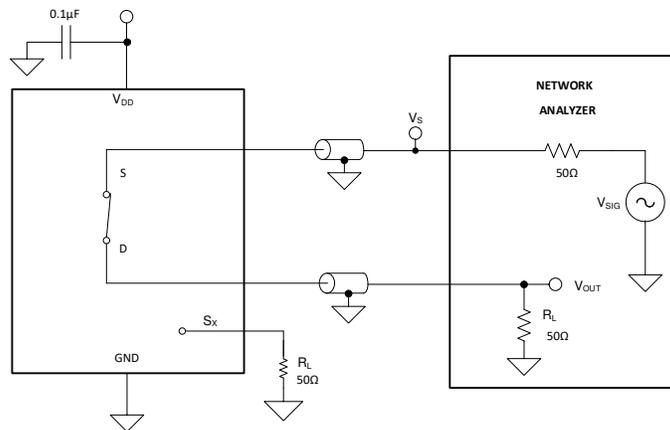

Figure 8-10. Bandwidth Measurement Setup
Bandwidth is defined as the range of frequencies that are attenuated by less than 3 dB when the input is applied to the source pin (Sx) of an on-channel, and the output is measured at the drain pin (D) of the device. **Figure 8-10** shows the setup used to measure bandwidth.